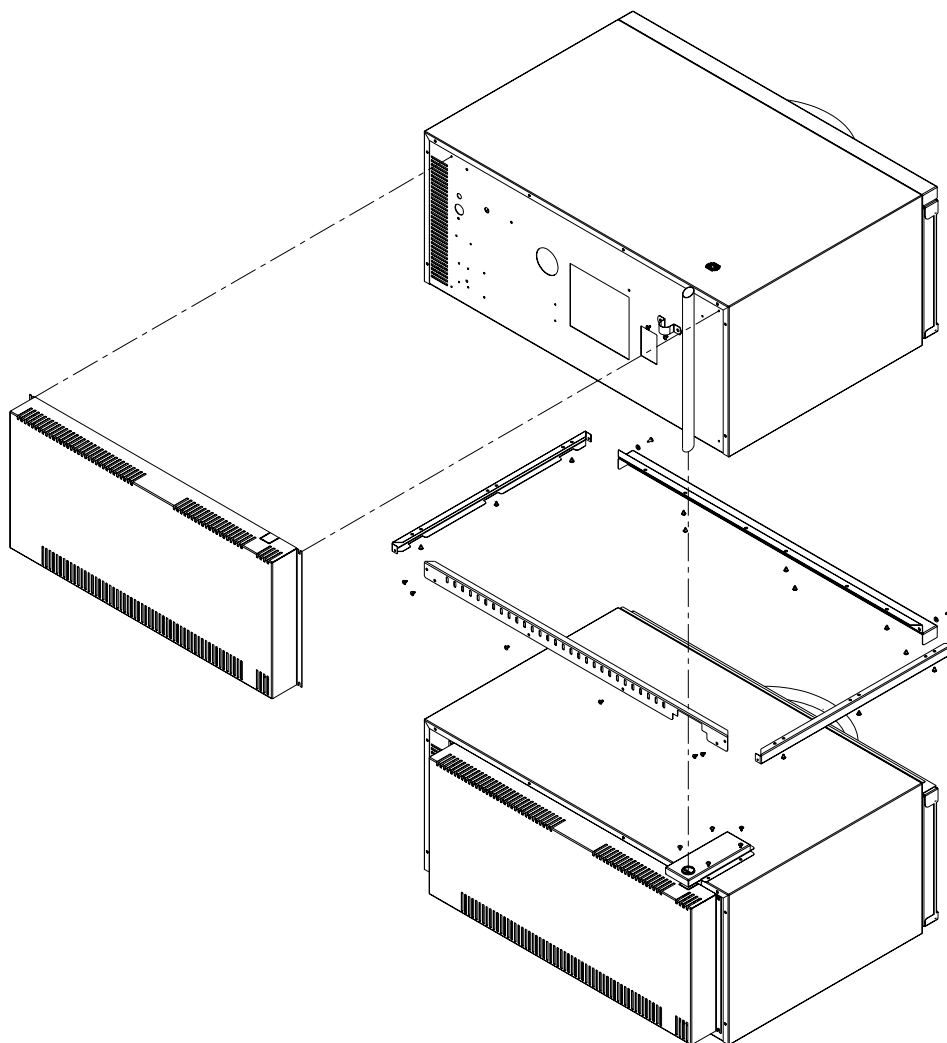

Figure A.2
C. Stacking the Ovens (Refer figure A.2)